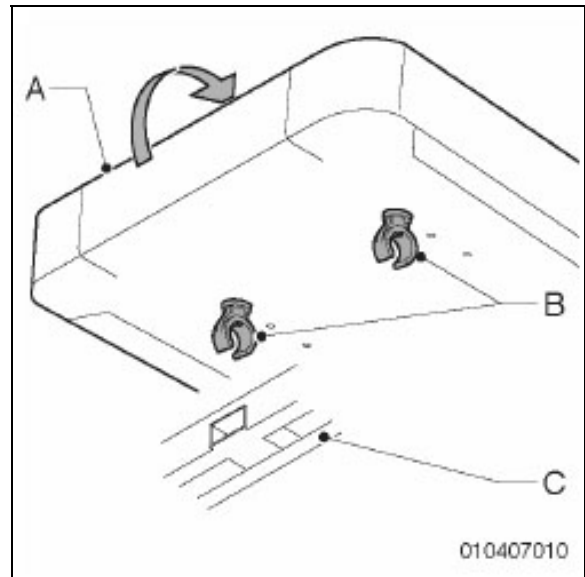
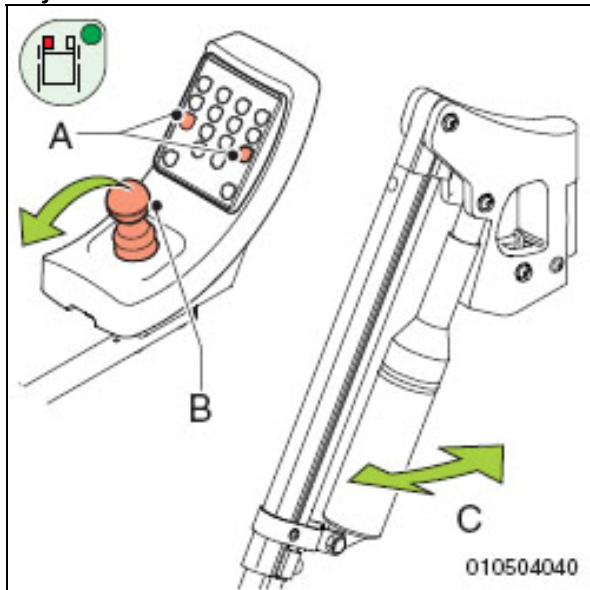

Figure 3.13
Figure 3.20
1. Pull up the seat (A in fig. 3.13) in the front.
2. When replacing the seat, the clips (B in fig. 3.13) must click around the frame (C in fig. 3.13) of the chair.
- On the control panel of the controller, press the symbol for angle adjustment of the leg rest (A in fig. 3.13) of which the angle (C in fig. 3.20) has to be adjusted. The light of the pressed symbol must now be on.
- Now move the joystick (B) forward to adjust the leg-rest (C) upward or backward to bring the leg-rest down.